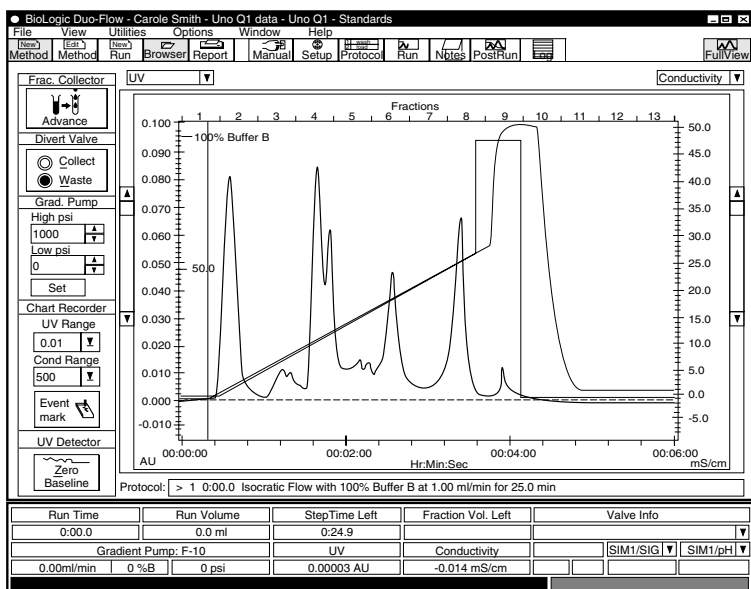

Fig. 5. Run control screen.
3. When you have finished programming the Protocol Editor, click on the toolbar button RUN. You will see a dialog box asking you to name the run. For now, type in Run 1 and click the OK button. You will now see the Run Control Screen (see Figure 5).
7. Figure 5 shows a typical run screen and chromatogram for this separation.